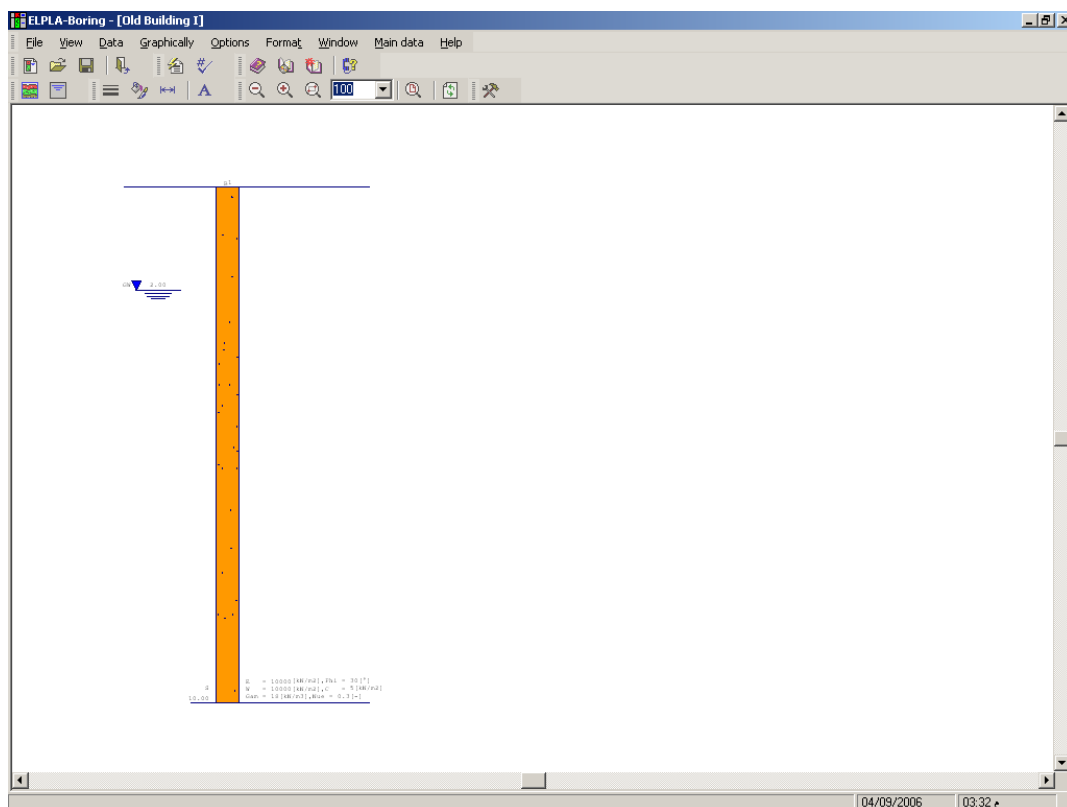

Figure 9-15 *ELPLA-Boring* sub program with a default-boring log
To define the soil properties, choose "Soil properties" command from "Data" menu of *ELPLA-Data*. The following sub program in Figure 9-15 appears with a default-boring log.
- Choose "Main soil data" from "Data" menu in Figure 9-15. The following dialog group box in Figure 9-21 appears